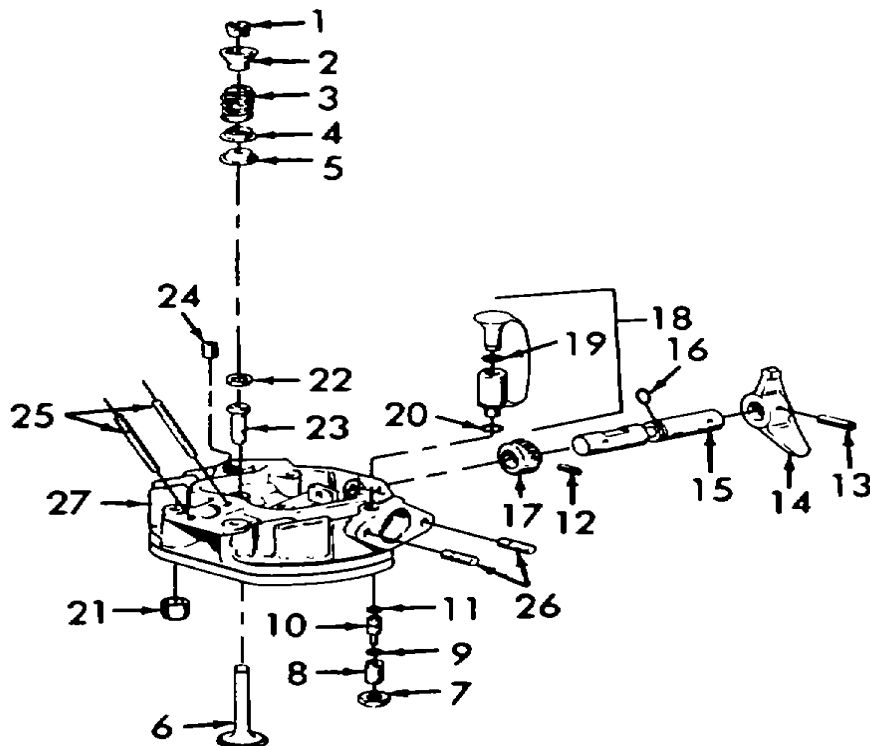

Figure 6-3. Cylinder Head Reassembly.
(9) The valve recession shall be a maximum of 0.0275 inch (0.70 mm) and a minimum of 0.0180 inch (0.45 mm).
e. Reassembly. (Refer to figure 6-3).
- (1) Install two studs (26 and 25) into cylinder head (27).
- (2) Install closing screw (24).
- (3) Press in two valve guides (23) and install two spacer rings (22), if removed.
- (4) Install two pins (21). Install new packing (20), new packing (19), and oil fill device (18).
- (5) Install pinion (17), new packing (16), shaft (15), lever (14), and pins (13 and 12).